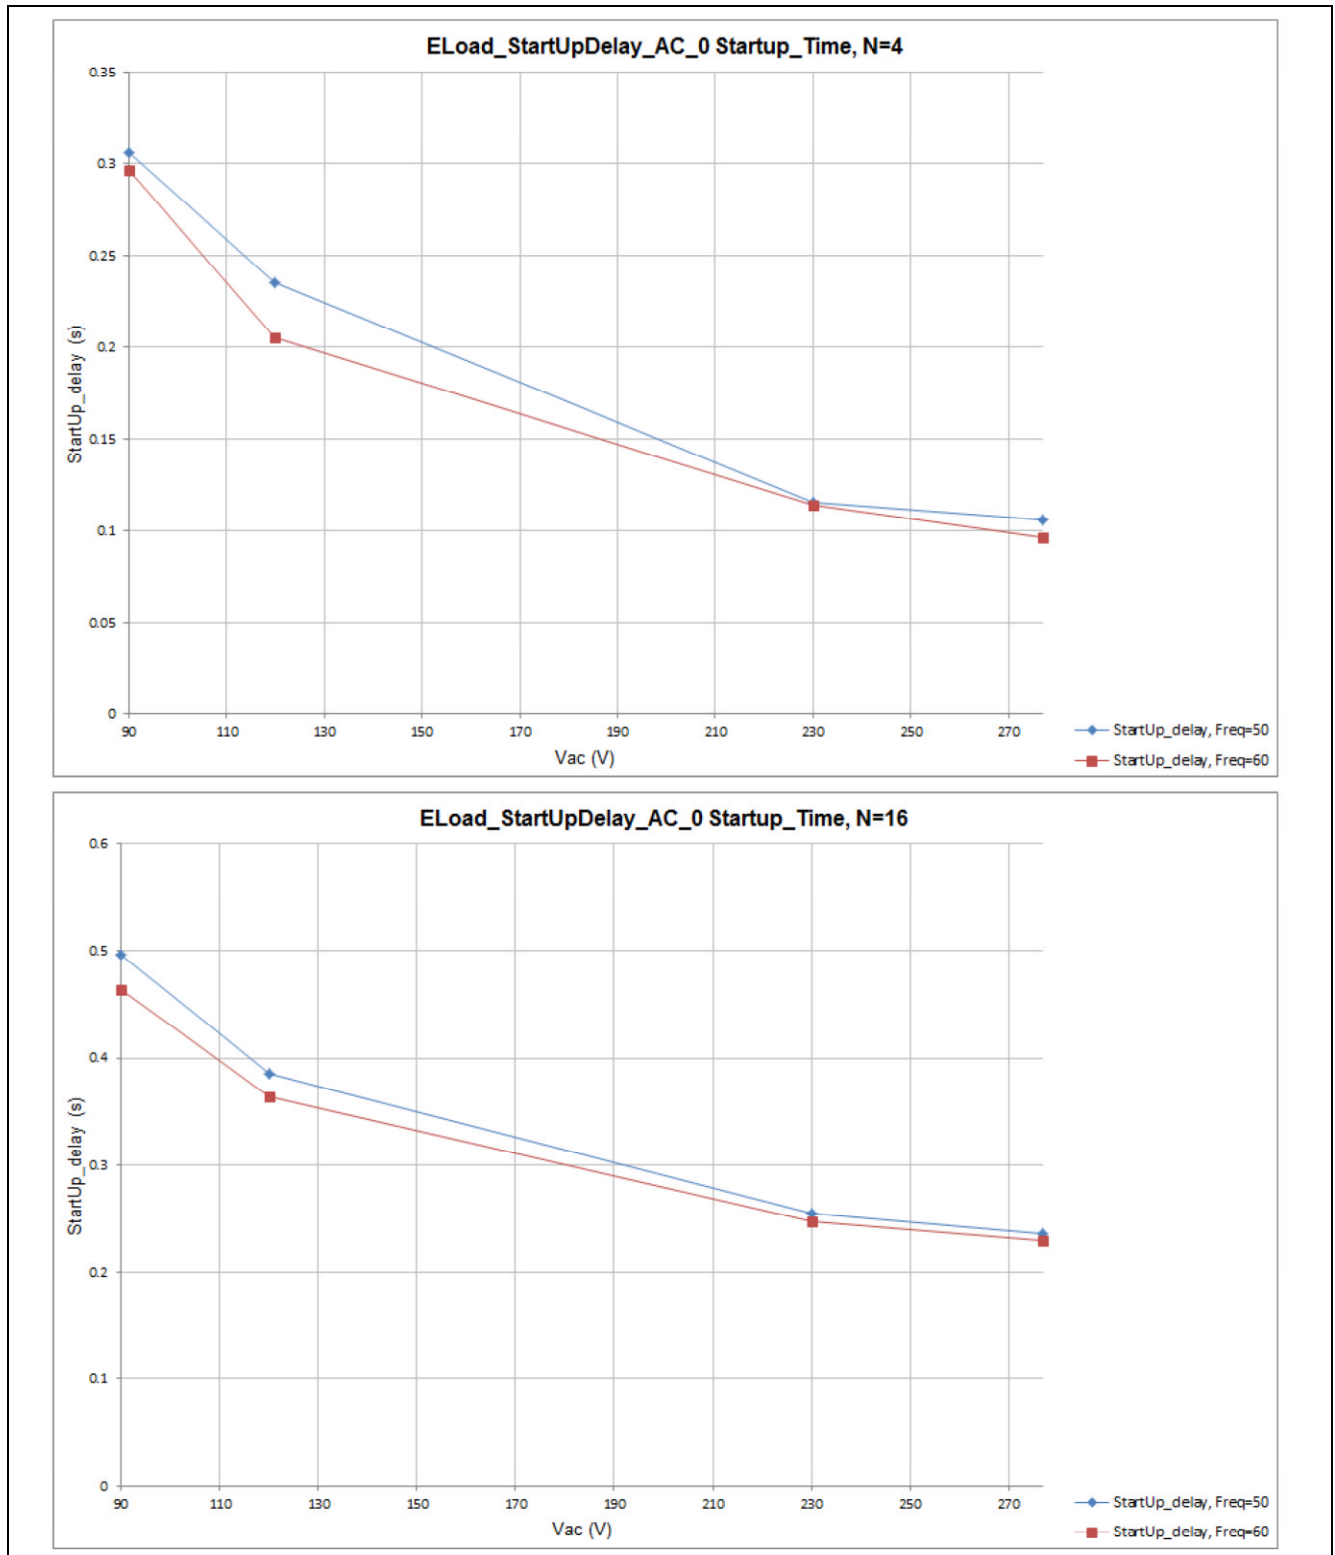

**Figure 20 Measured Non-dimmed Output Current (N = 4, 10, 16 corresponds to Vo = 12 V, 30 V, 48 V respectively)**
**Figure 20** shows the load (N) and line (Vac) regulation performance of the 20 W ICL8105 evaluation board. A forward voltage of 3 V was used. Thus, the output voltage of approximately 12 V, 30 V, 48 V corresponds to the LED numbers (N) = 4, 10 and 16 respectively in the non-dimmed condition. The output current (Iout) is regulated within a maximum deviation of + 2.75% / - 4.25%.